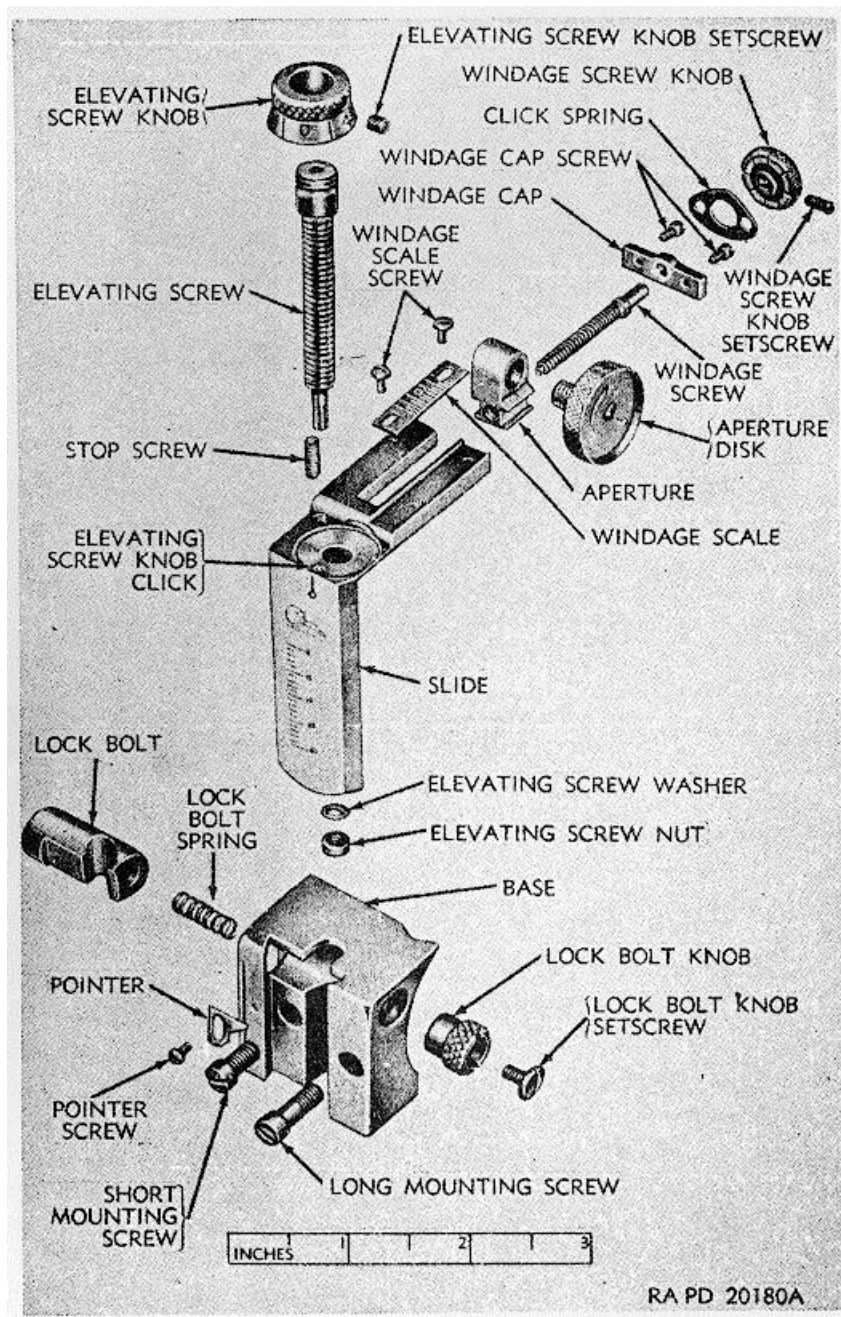

Figure 66. Lyman rear sight 48WH assembly-exploded view.
- (1) Replace inserts if they are worn or broken.
- (2) Replace worn or broken insert holding nut and base locking bolt.
b. Disassembly (fig. 66).
- (1) With a small jeweler's screwdriver, loosen the windage screw knob setscrew in the windage screw knob, and remove the knob and rear sight click spring. Remove the two windage cap screws from the windage cap and remove the cap.
- (2) Unscrew the rear sight aperture disk from the rear sight aperture.
- (3) Remove the rear sight aperture and rear sight windage screw. Remove the screw from the aperture.
(4) Unscrew the two rear sight windage scale screws and remove the rear sight windage scale.
(5) With a split-type screwdriver, remove the elevating screw nut on the bottom of the elevating screw and remove the elevating screw, elevating screw knob, and washer. The knob may be removed from the screw by loosening the elevating screw knob setscrew in the knurled portion with a jeweler's screwdriver.
(6) Remove the rear sight lock bolt knob setscrew from the center of the lock bolt knob, and remove the rear sight lock bolt knob and lock bolt spring. Remove the lock bolt.
(7) Remove the rear sight pointer screw and rear sight pointer.
(8) The rear sight stop screw can be removed by unscrewing it from the slide.
- (4) Check functioning of the lock bolt knob.
- (5) Check "numbers" on windage scale and sight slide for wear.
- (6) Examine threads of elevation screw and windage screw for wear or burs.
- d. Assembly (fig. 66).
- (1) Insert the rear sight lock bolt and lock bolt spring into the rear sight base.
- (2) Place the lock bolt knob on the lock bolt and install the lock bolt knob set screw in the center of the knob.
- (3) Assemble the rear sight elevating screw knob on the elevating screw and tighten the elevating screw knob set screw in the knob. Install the rear sight stop screw in the rear sight slide and adjust it for zero elevation. Install the elevating screw in